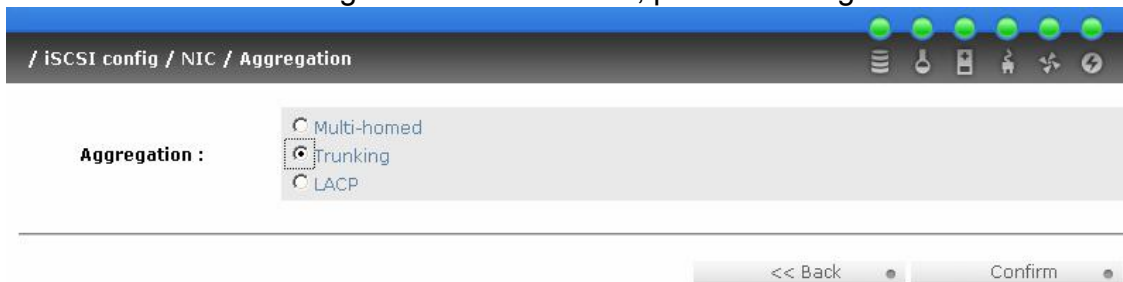

Figure E.8
- Select "LACP". If Trunking is needed, please see Figure E.8.